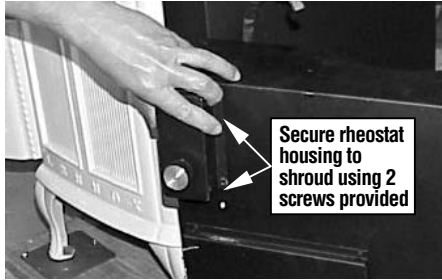

Figure 9
- Connect the black wire from the blower (step 6) to the black rheostat wire. Using a 1/4" nut driver, install the rheostat housing onto the rear shroud using the 2 screws provided. Ensure that the wires and connectors are completely through the hole and contained in the rheostat housing. See Figure 9.